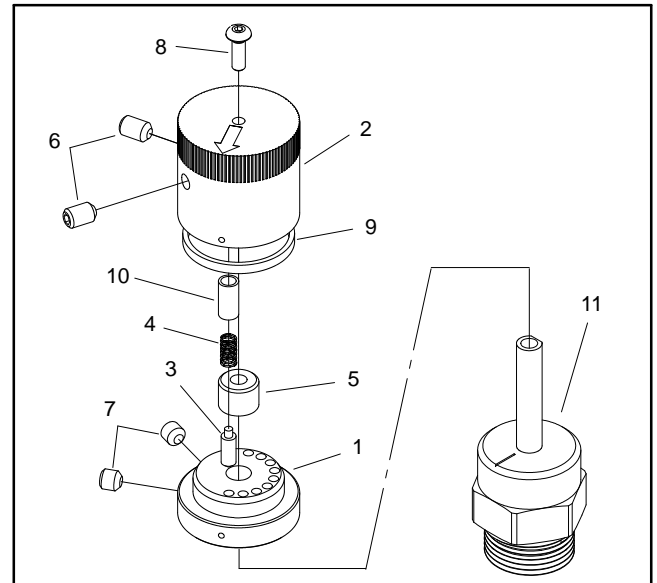

Figure 72
3. If flow control cartridge valve is being serviced, remove rotary handle from valve stem (Fig. 72):
A. Loosen two (2) set screws that secure handle cap.
D. Loosen two (2) set screws that secure handle base to flow control valve and remove base.
12. If flow control cartridge valve was removed, install rotary handle to valve stem (Fig. 72):
- A. Place handle base on flow control valve and position alignment mark on base with number 1 on manifold. Secure base with two (2) set screws. Apply a light coating of grease to chamfer on top of base to ease seal installation.
H. Make sure that alignment marks on cap and base are in line and that arrow on cap is pointing to number 1 on manifold. Tighten two (2) set screws to secure handle cap.